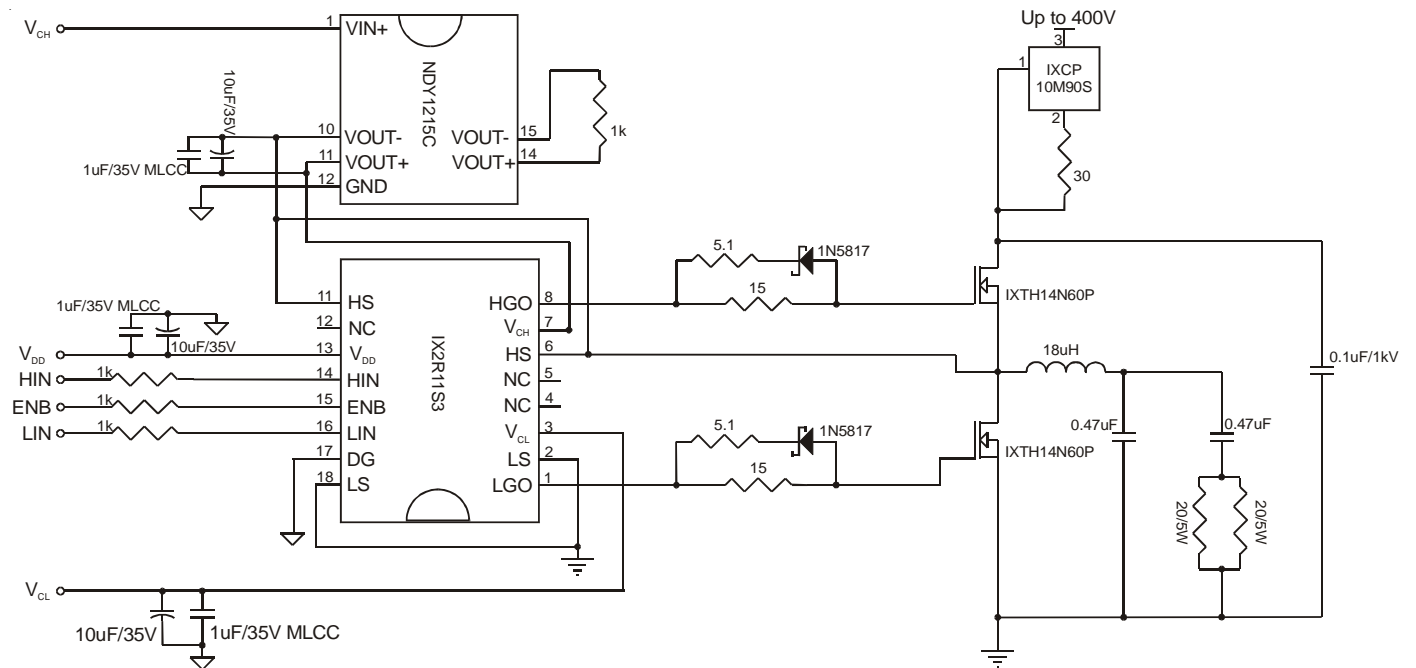
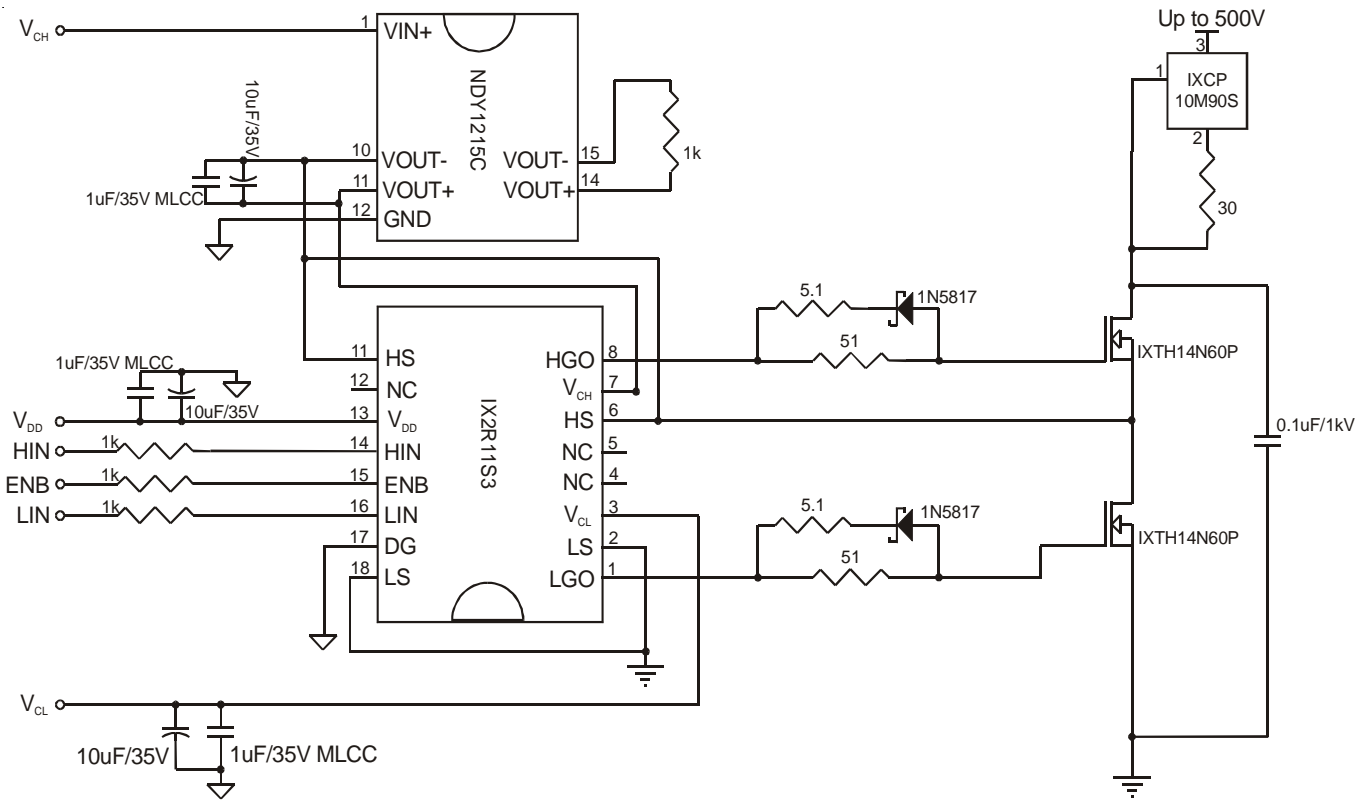

Figure 10. Test circuit for high frequency, 750kHz, operation.
Figure 11. Test circuit for low frequency, 75kHz, operation.
* Operational voltage rating of 500V determined in a typical half-bridge circuit configuration (refer to Figure 10 and Figure 11).